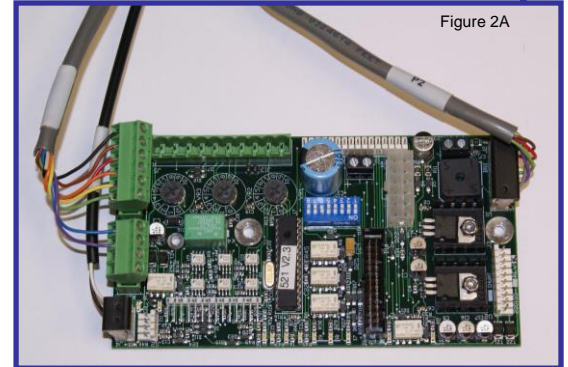

Figure 2A
- Once harness is modified install new Rev K Control Board using existing hardware and mounting bracket. Reinstall modified cable harness (200378) as shown in figure 2A above and apply correct switch settings. (Note: For switch settings refer to page three of document)